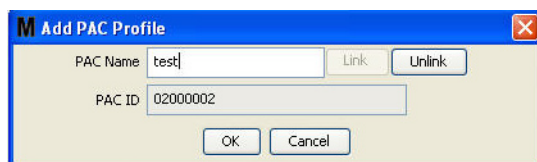

FIG. 128
5. The PAC ID number displays in the PAC ID field (FIG. 128). Click OK to close the screen and save the changes.
Notice the “Link” button in FIG. 128 is no longer active and instead an “Unlink” button is active. Clicking the “Unlink” button breaks the association between the PAC and the Matrix PC.